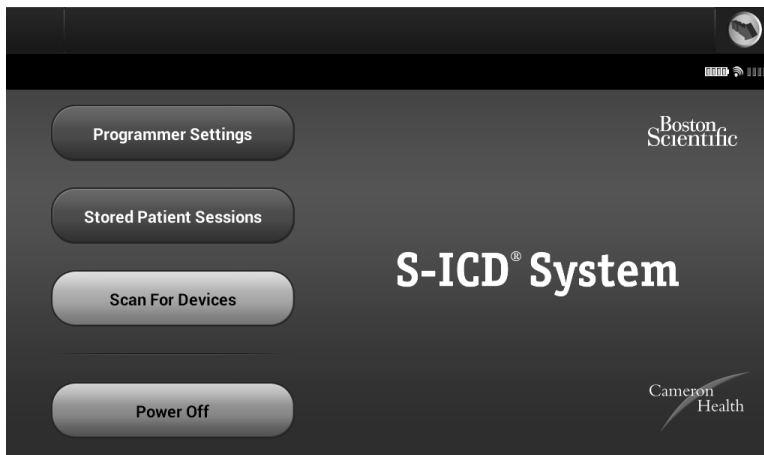

Figure 13: *Startup screen*
1. Select the Scan For Devices button on the Startup Screen (Figure 13). The Device List screen appears after the Scan Progress Bar displayed during the scanning process. Select the Cancel button at any time to end the scanning process.